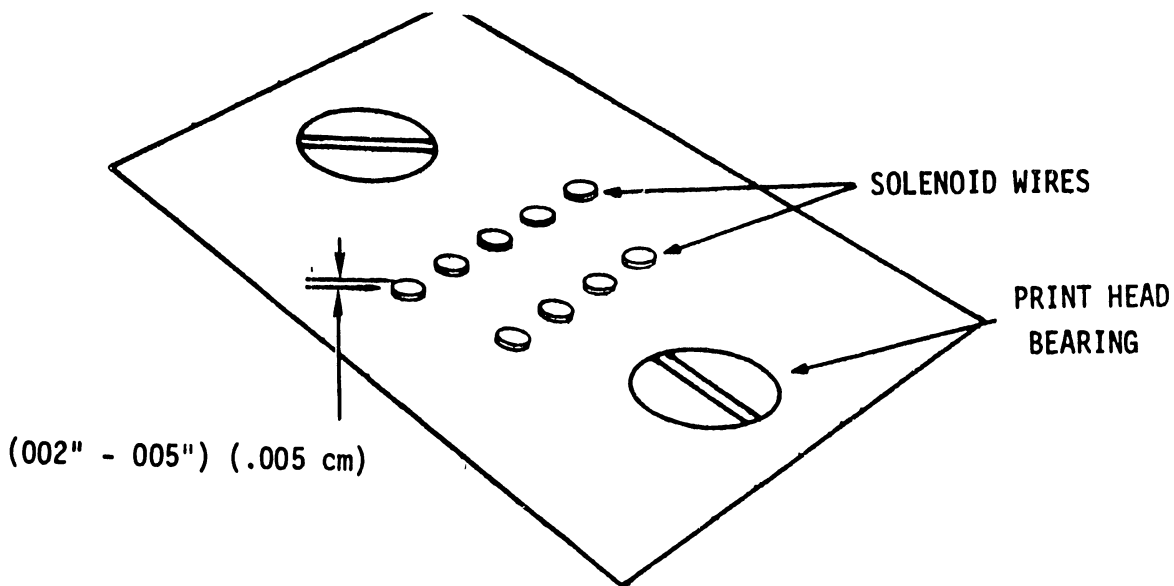

FIGURE 5-9 SOLENOID WIRE ADJUSTMENT
- 2) With a jewelers loupe (magnifier) look at the head bearing (Figure 5-9). All the solenoid wires must protrude .002" - .005" (.05 mm - .12 mm) from the bearing surface.